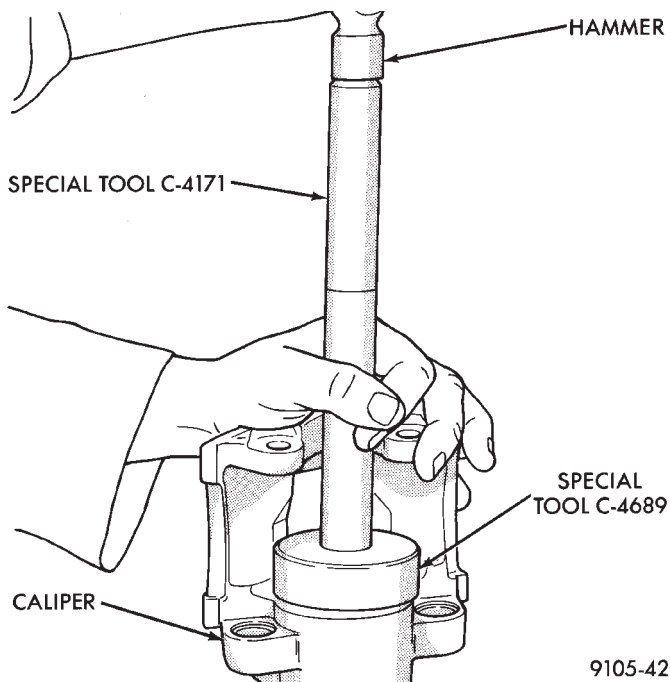

Fig. 3 Installing Dust Boot in Caliper Counterbore
(7) Using a hammer and Installer Piston Caliper Boot, Special Tool C-4689 and Handle, Special Tool C-4171, drive boot into counterbore of the caliper (Fig. 3).